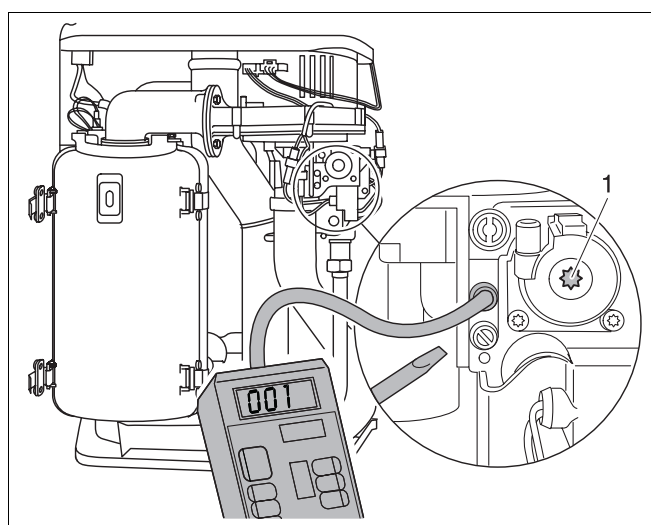

Fig. 37 Check the gas/air ratio
- Attach the pressure-gauge connection hose to the gas test nipple (fig. 37).
- Connect the positive port of the pressure gauge with a hose to the burner pressure measuring nipple (fig. 37).
- If the gas/air ratio does not conform to specifications, readjust at the setscrew (fig. 37, item 1).